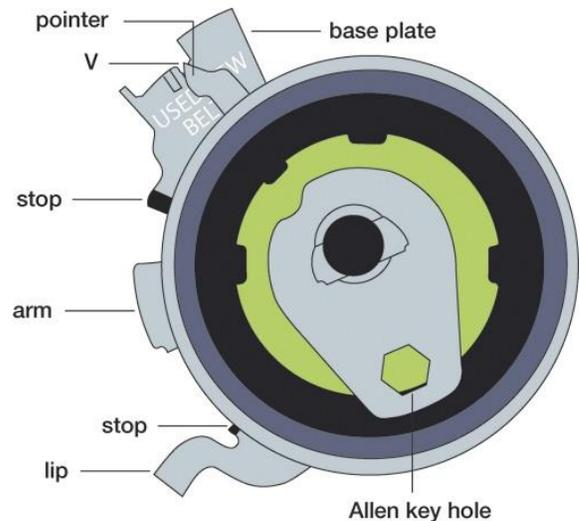

Fig. 3
14. Adjust tensioner (while holding the tensioner bolt in place), till pointer in line with V ("NEW" position); the allen key hole has to be in +/- 5 O'clock position now (Fig. 3)